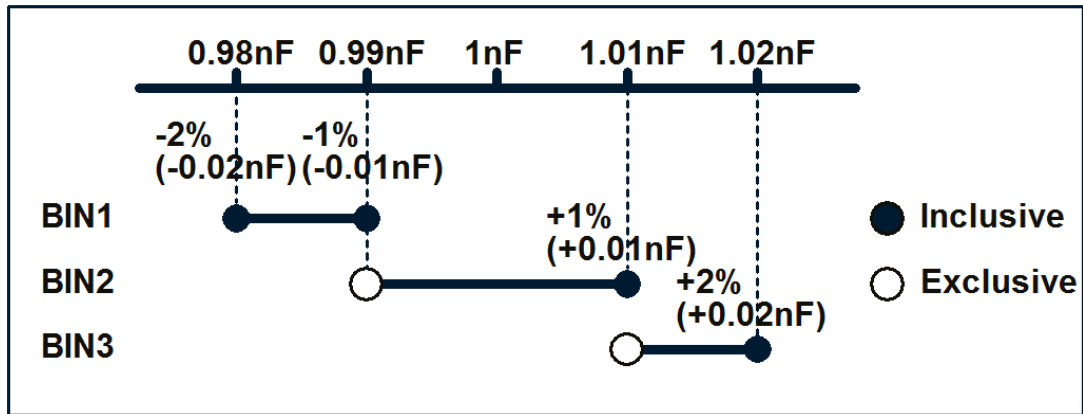
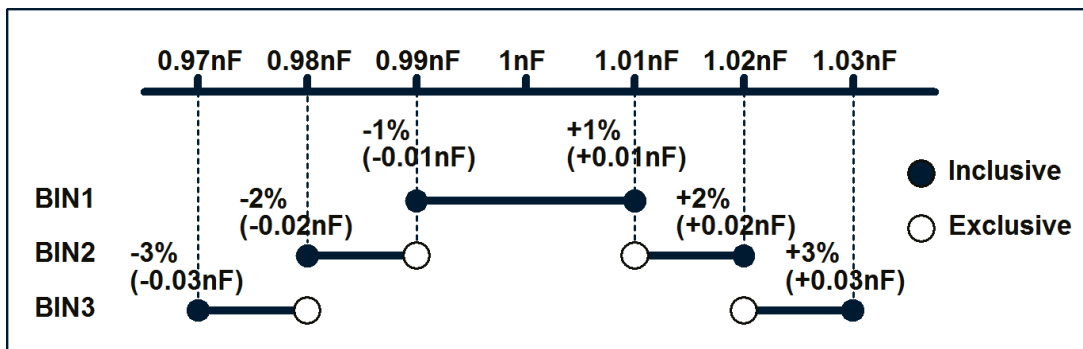
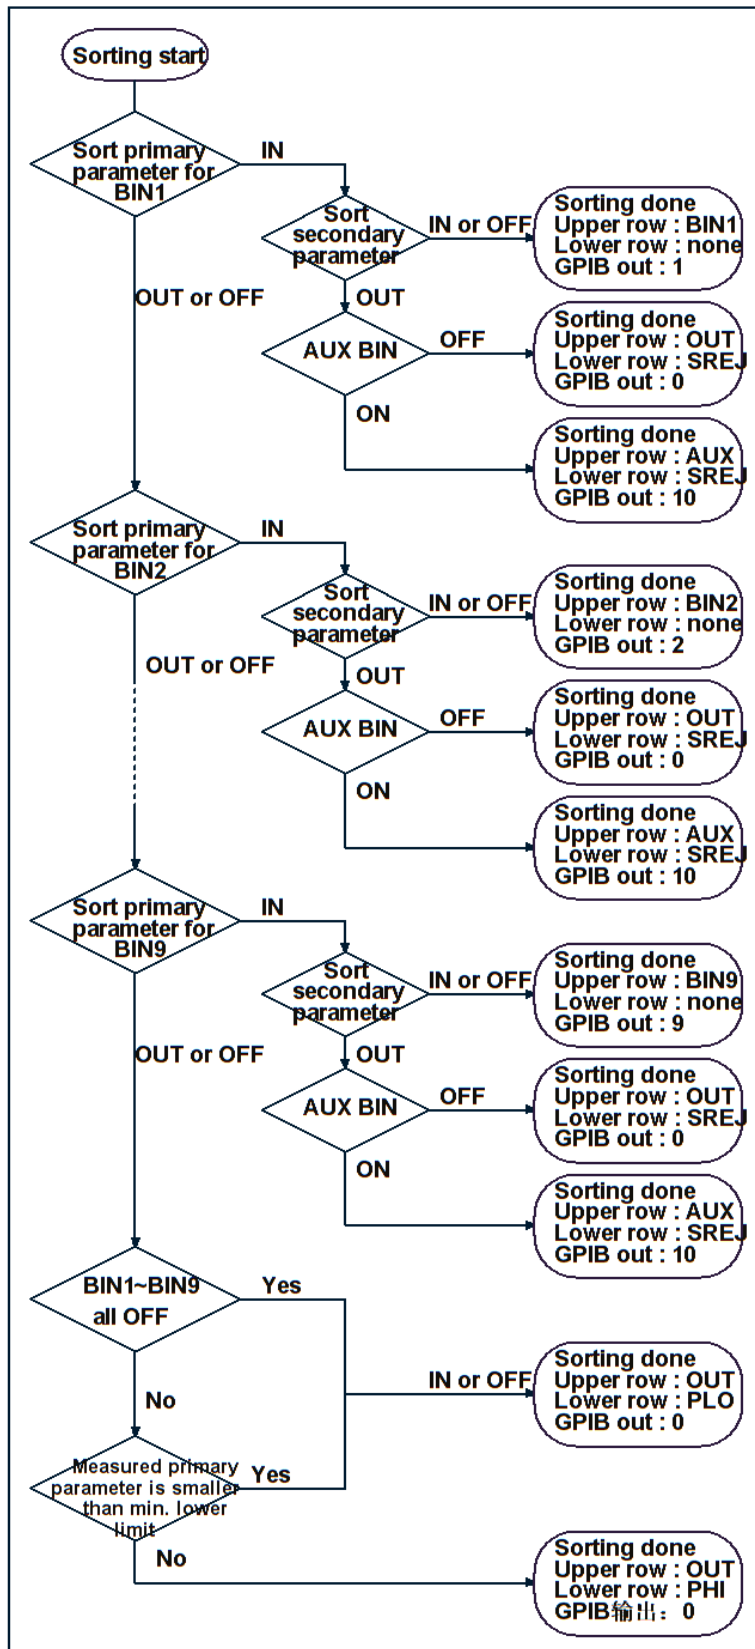

Figure 7-1 Example of limit range settings
Figure 7-2 Example of limit range settings
Figure 7-5 Sorting judgment flow
The limit ranges are shown in Figure 7-1 and Figure 7-2 respectively. The compare setup values and limit designation methods are shown in Table 7-1 and Table 7-2 respectively.
- If BINs overlap, the resulting measurement is sorted into the BIN of the smallest number (refer to Figure 7-5, “Sorting judgment flow”). Therefore, you need to set up the limit ranges starting from the narrowest to the widest as shown in Figure 7-2.
The sorting judgment is obtained through the comparator function according to the flow shown in Figure 7-5.